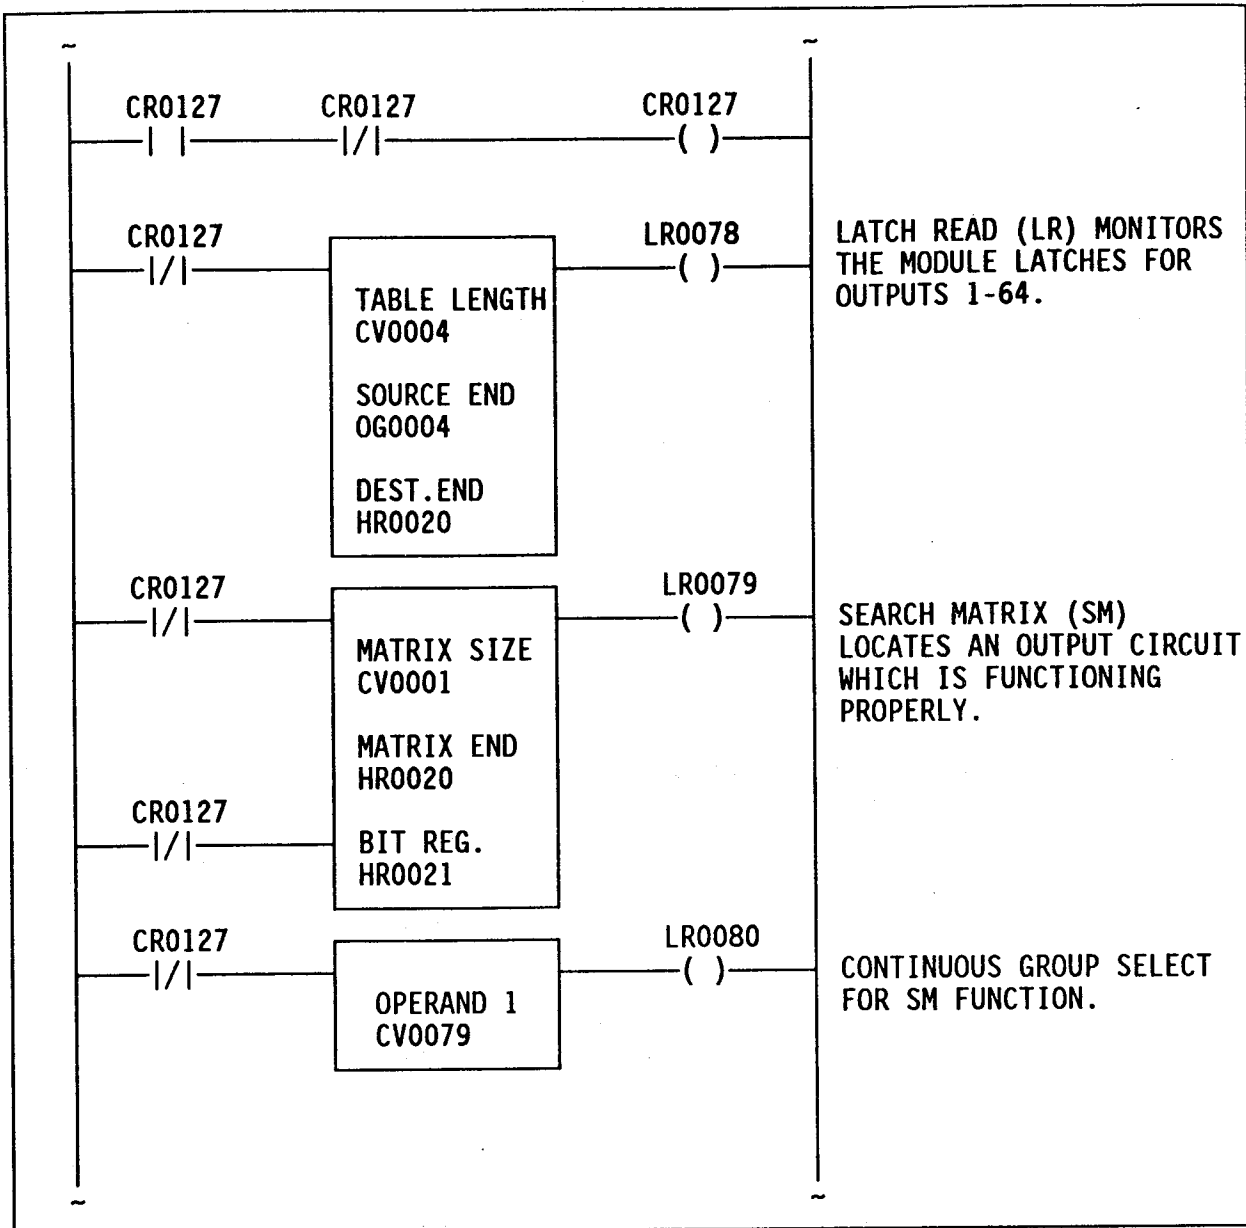

Figure 3. LR Application
The LR function is useful in critical applications where an improperly functioning output circuit could be hazardous. Using the program shown in Figure 3, outputs 1 through 64 are checked each scan for improperly operating circuits. If a malfunctioning circuit is present, the Search Matrix (SM) coil will energize. The status of the Search Matrix coil may then be used to initiate an alarm or a controller shutdown sequence.